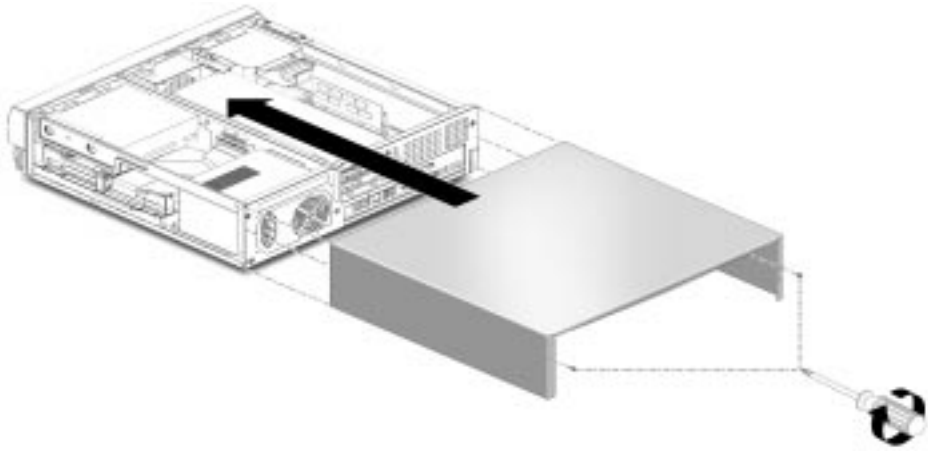

FIGURE 9-1 Replacing the System Cover
- 2. Position the system cover onto the system chassis. Slide the system cover toward the front of the system until the cover tabs lock (FIGURE 9-1).**